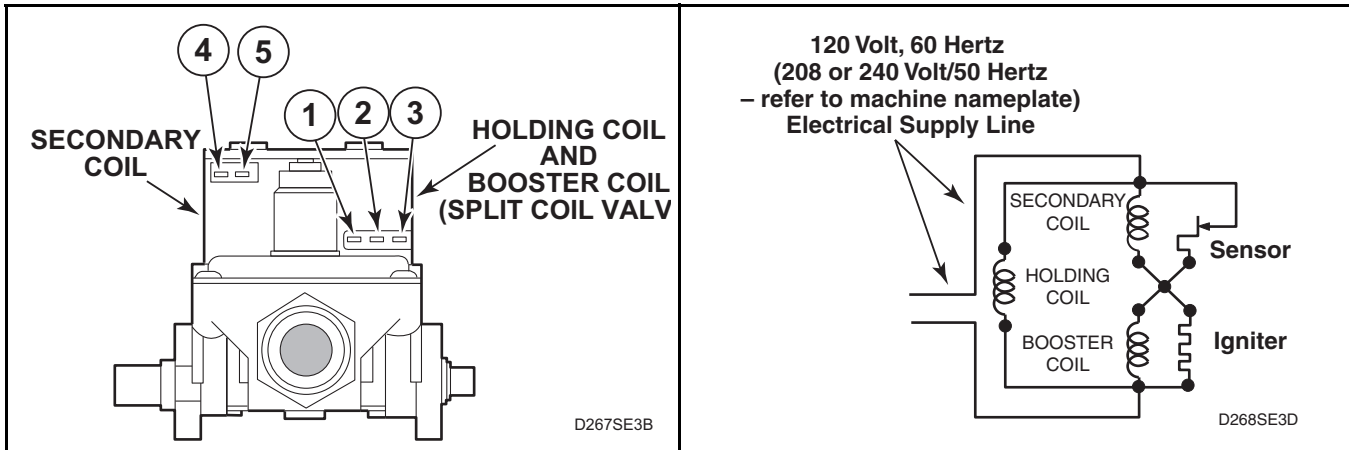

Figure 12
(Gas Models – Refer to *Figure 12*.)
- f. Set test meter to read AC voltage and apply meter probes into terminals on the dryer harness plug that would correspond to terminals "1" and "2" on the coil. Refer to *Figure 12*. Meter should register line voltage in all cycles, except NO HEAT which should read "zero" VAC.